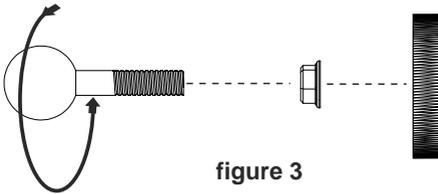
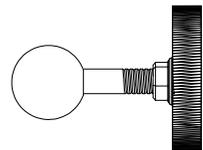

figure 3
figure 4
Mount (4) & (5) as shown in figure 3. Screw the threaded ball (4) into the threaded insert on the rear of the loudspeaker (6) (loudspeaker not shown below). Tighten M10 nut (5) against the loudspeaker with a spanner. The assembly will now be as shown in figure 4.